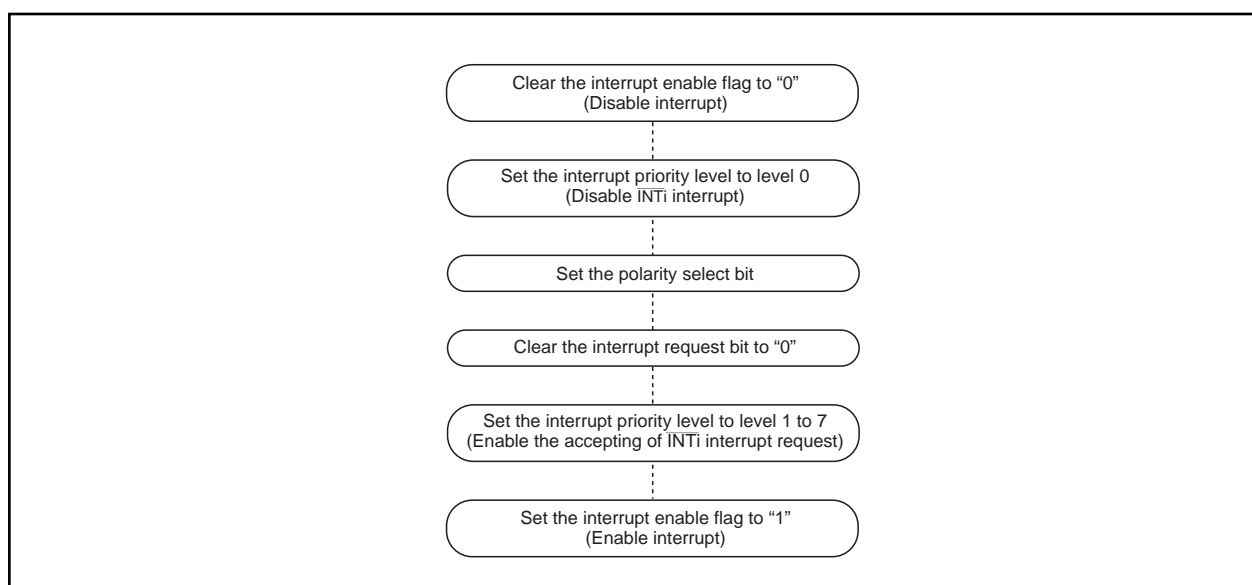

Figure 1.14.13. Switching condition of INT interrupt request
- When the polarity of the  $\overline{\text{INT0}}$  to  $\overline{\text{INT5}}$  pins is changed, the interrupt request bit is sometimes set to "1". After changing the polarity, set the interrupt request bit to "0". Figure 1.14.13 shows the procedure for changing the  $\overline{\text{INT}}$  interrupt generate factor.